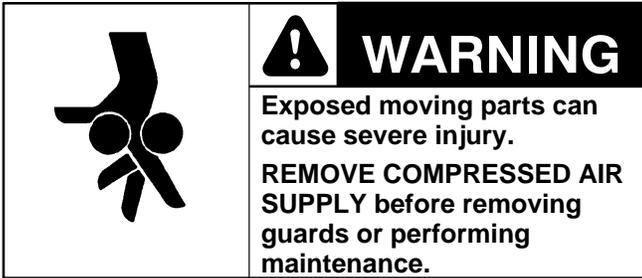

Figure 57
3. Swing down idler guard assembly (AX of Figure 57).